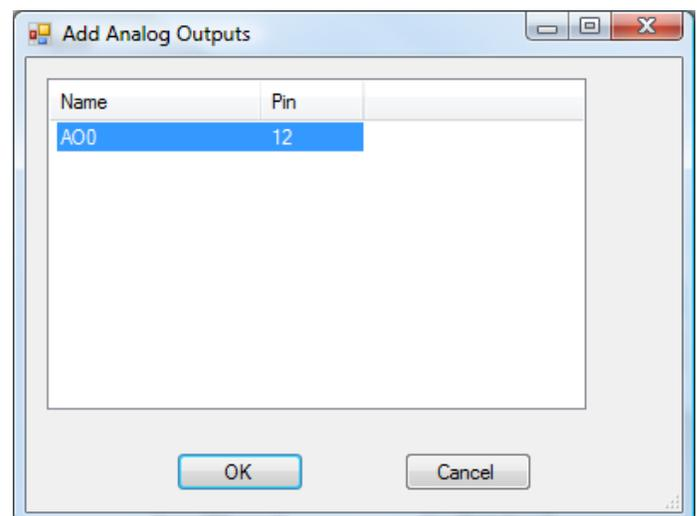

Figure 2-8- Add Analog Outputs Dialog
- Click the **ADD OUTPUTS** button next to the Outputs pane. The *Add Analog Outputs* dialog will open. Select (highlight) the A00 shown in the dialog and click **OK**. Refer to Figure 2-8.